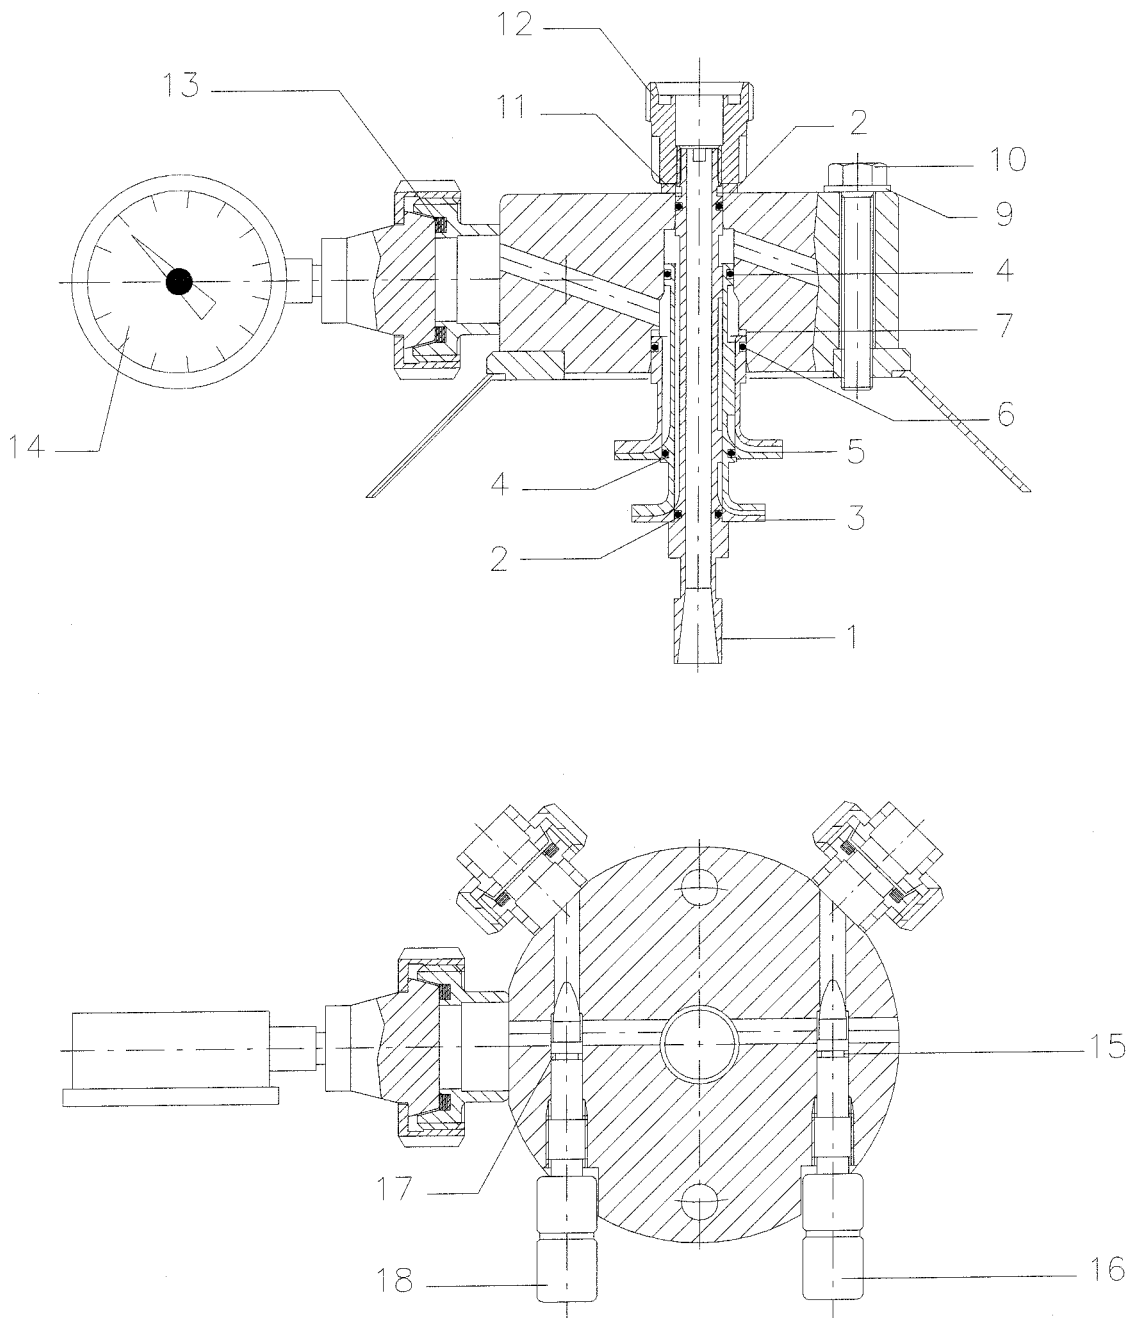

Figure 6.12
The correct position of pumps is shown by fig. 6.10; the pumps are in the middle of the corresponding chamber of the bowl. This position is obtained by inserting a few spacers (7) - fig. 6.12 between the heavy phase pump (5) and the inlet-outlet flow unit body (8). The number and thickness of spacers may vary only after the replacement of some parts of the vertical shaft unit (Tab.06) and/or of the bowl (Tab.04) and/or of the inlet-outlet flow unit (Tab.05). In this case it is advisable to vary corresponding number and thickness of spacers indicated on technical card § 3.3. The total thickness of spacers is determined by the following relation:
Proceed in inverse order than assembly (see Fig. 6.12).